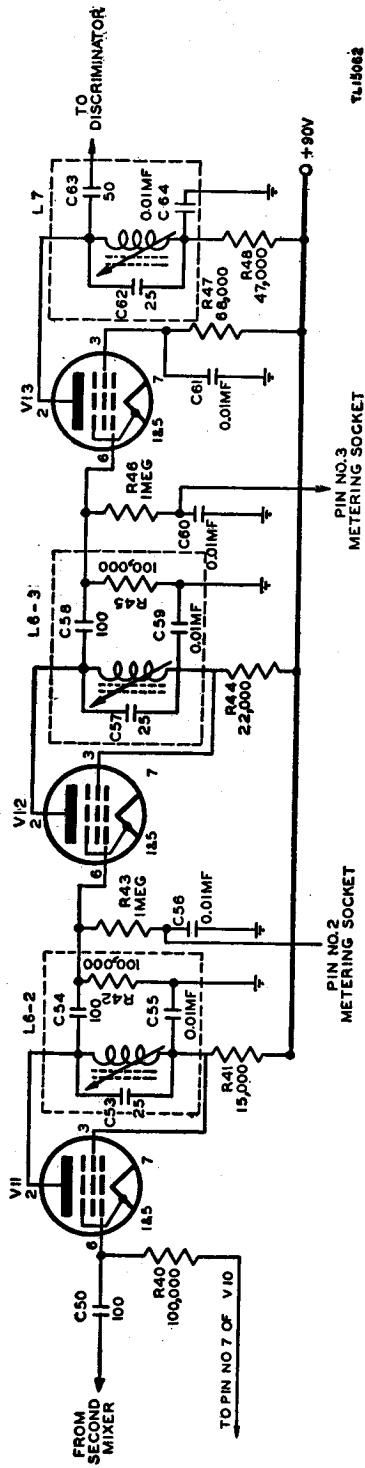

Figure 49. Radio Receiver and Transmitter BC-1000-A, receiver second i-f amplifier system
*a.* The second i-f amplifier system as shown in figure 49 consists of the third i-f amplifier Tube JAN-1T4, V11; first limiter Tube JAN-1L4, V12; and second limiter Tube JAN-1L4, V13. The output of the second mixer is increased in amplitude by the third i-f amplifier before application to the limiter stages. The limiter stages confine the i-f signal within fixed voltage limits regardless of the strength of the incoming signal. (This does not apply to a very *weak* signal which may not have sufficient amplitude to swing between these levels.) The signal applied to the frequency discriminator is, therefore, constant in amplitude. The audio output of the receiver is reasonably constant in volume and free of interference from weaker signals on the same frequency.